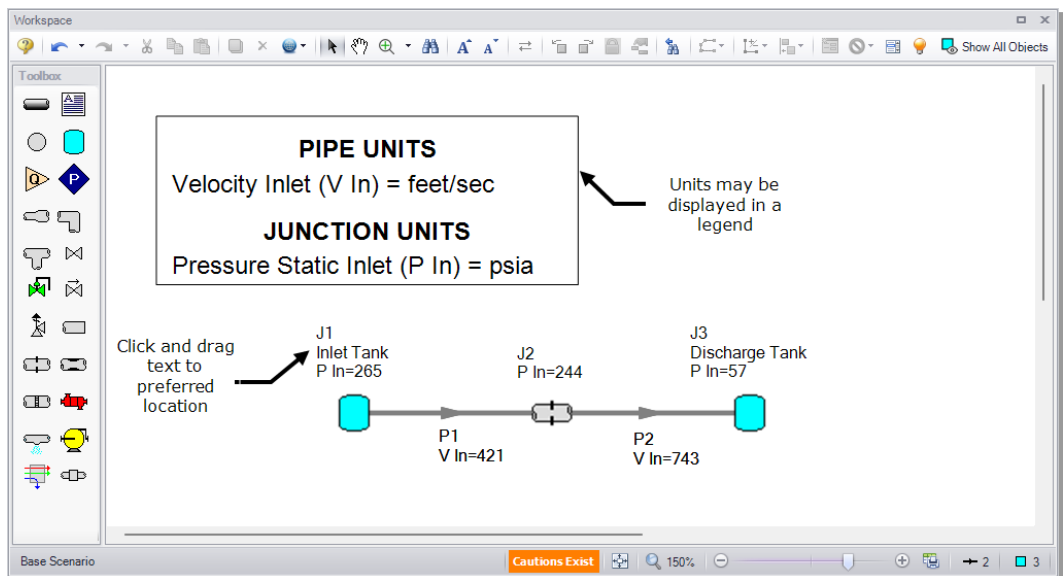

Figure 2.19 Results are superimposed on the model layout via Workspace Layers
- **Add additional clarity by repositioning the labels and adding a legend.** It is common for the text on the Workspace Layers to overlap with objects when first generated. Labels can be dragged to a new area or a smaller font can be selected using the Font Decrease icon on the Workspace Toolbar. Parameter units can be consolidated in a legend which can be added via the Global Layer Settings. In the Layers Toolbar, click the double gear icon to open the Global Layer Settings. Then, enable the checkbox for Show Units in Legend. The result of these adjustments is shown in Figure 2.19.